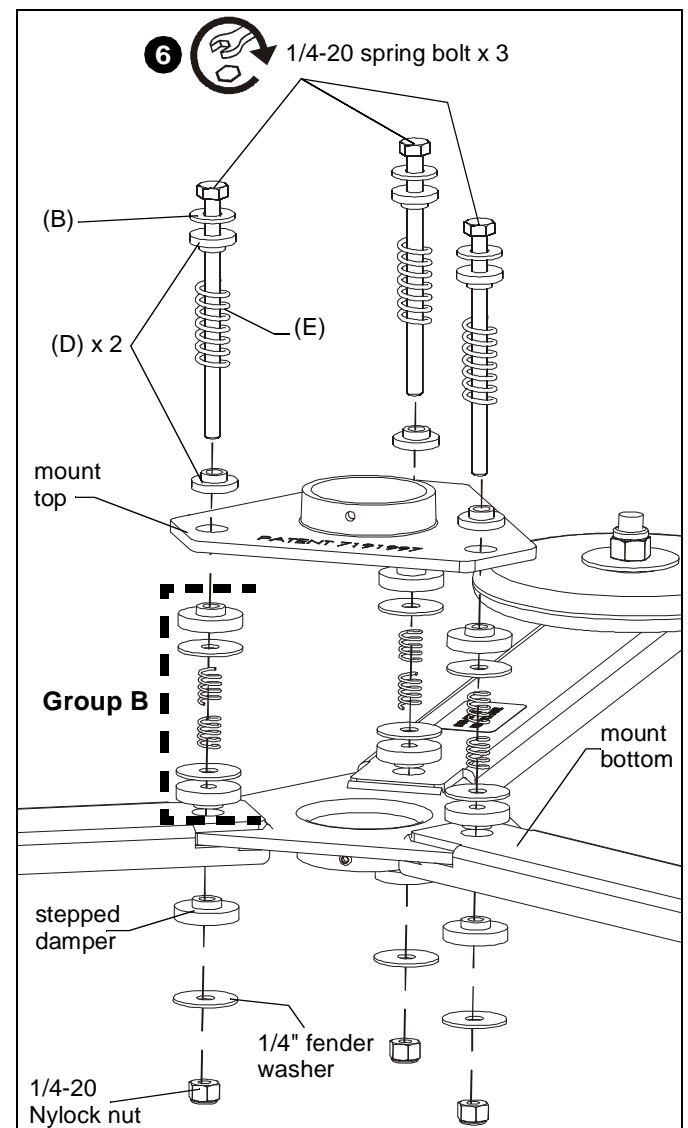

Figure 3
3. Install one 1/4" machine washer (B), two vibration bushings (D), and one long heavy gauge spring (E) onto 1/4-20 spring bolt. (See Figure 3)
4. Insert 1/4-20 spring bolt with washers and bushings through mount top (A), Group B hardware, and mount bottom (A).
4. Insert 1/4-20 spring bolt with washers and dampers through mount top (A), Group B hardware, and mount bottom (A). (See Figure 3)